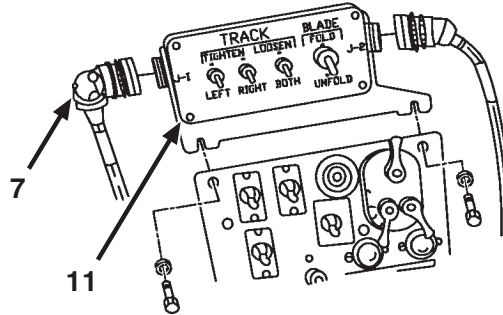

Figure 88. Control Box Power Wiring Harness.
Step 7 and step 1 of assembly applies to Figure 88.
7. Disconnect control box power harness connector (item 7) from track and blade control box (item 11).